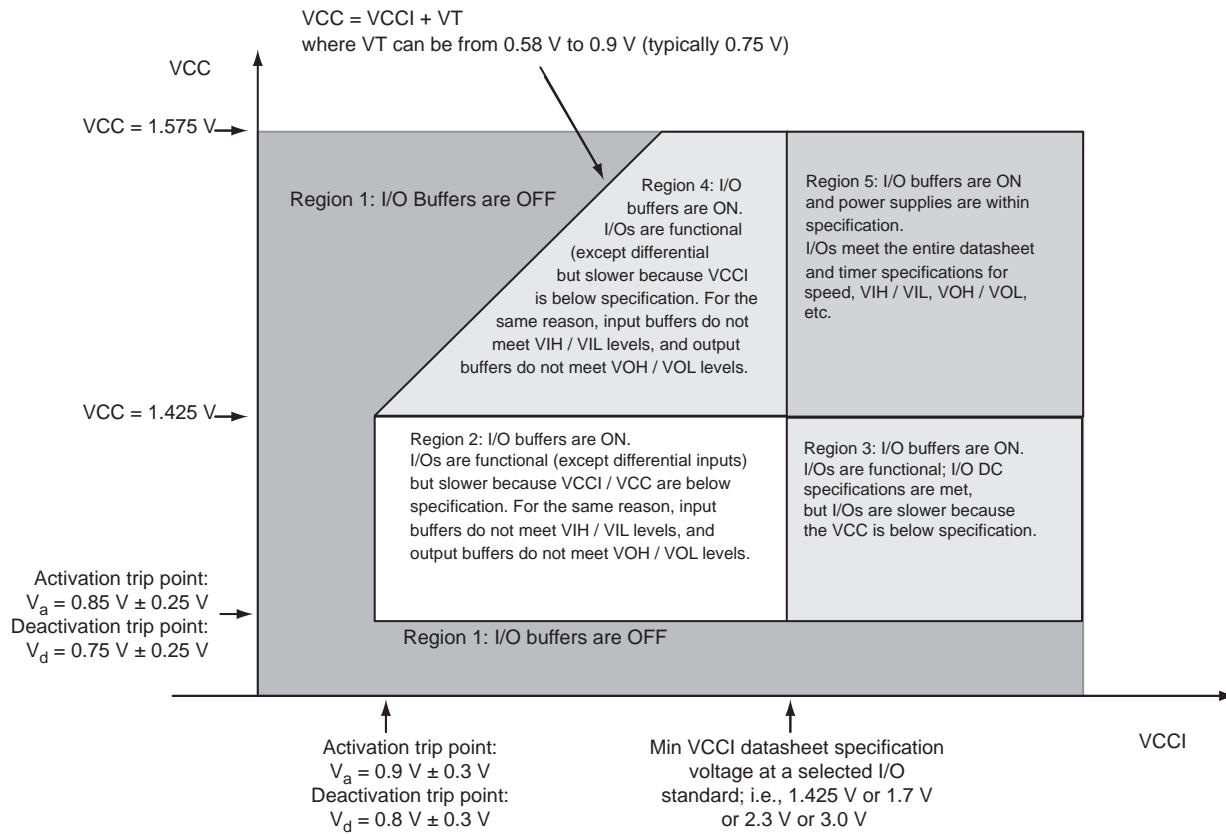

Figure 2-1 • I/O State as a Function of VCCI and VCC Voltage Levels
Sophisticated power-up management circuitry is designed into every ProASIC®3 device. These circuits ensure easy transition from the powered-off state to the powered-up state of the device. The many different supplies can power up in any sequence with minimized current spikes or surges. In addition, the I/O will be in a known state through the power-up sequence. The basic principle is shown in Figure 2-1 on page 2-4.
1. VCC and VCCI are above the minimum specified trip points (Figure 2-1 on page 2-4).
Actel recommends using monotonic power supplies or voltage regulators to ensure proper power-up behavior. Power ramp-up should be monotonic at least until VCC and VCCPLX exceed brownout activation levels. The V_{CC} activation level is specified as 1.1 V worst-case (see Figure 2-1 on page 2-4 for more details).